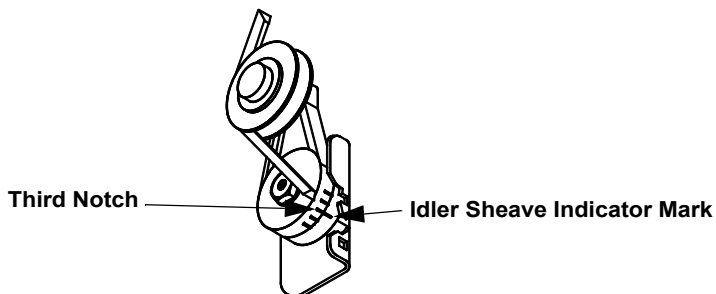

Figure 35. Idler Sheave Indicator Mark
- Check Belt Tension. The Belt should be tensioned just tight enough to minimize Belt slippage. Over tensioning the belt will cause premature Belt and Bearing wear. With a new Belt the Idler Sheave indicator mark should line up with the third notch in the Tensioner Housing (See **Figure 35**).